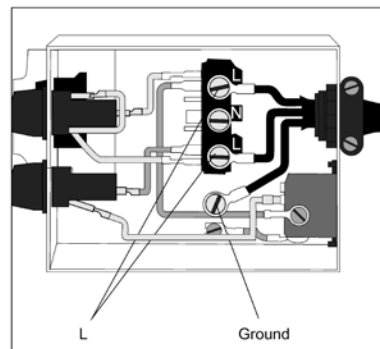

Figure 20.
9. Attach the two remaining power cord outer conductors to the 2 terminals labeled L. Tighten both screws so that the power conductors are securely held in place. See Figure 20.